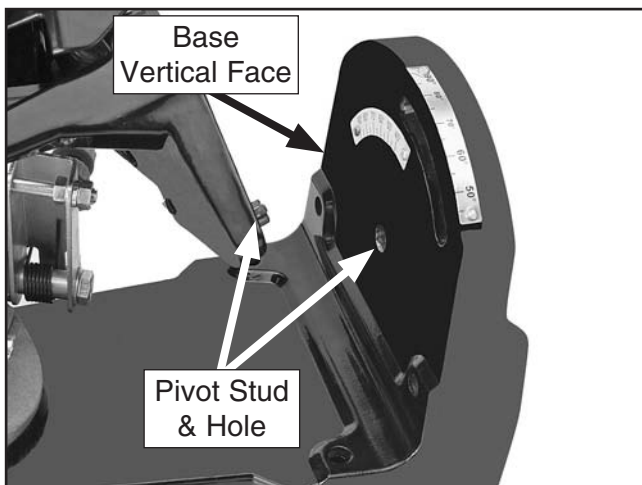

Figure 8. Swing arm pivot stud and matching hole.
2. Insert the swing arm pivot stud into the matching hole in the vertical face of the base (see **Figure 8**).